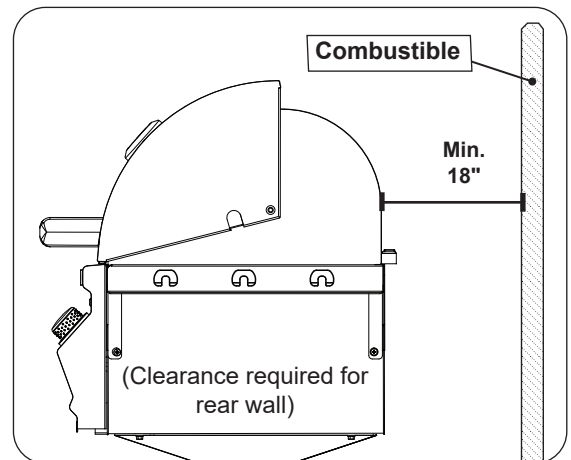

Fig. 14-3 Clearance 'B' Diagram
- The unit must have a minimum clearance of 18" from the combustible rear wall (see Fig. 14-3).